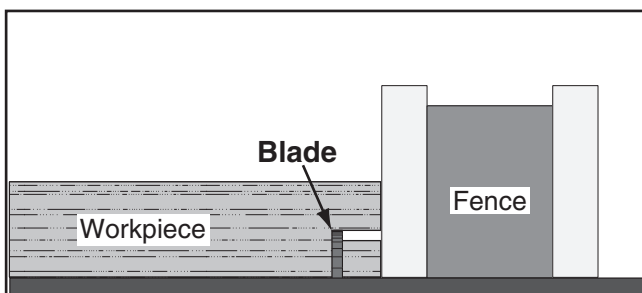

Figure 68. Example of second cut to create a rabbet.
7. Lay workpiece flat on table, as shown in **Figure 68**, adjust saw blade height to intersect with first cut, then perform second cut to complete rabbet.